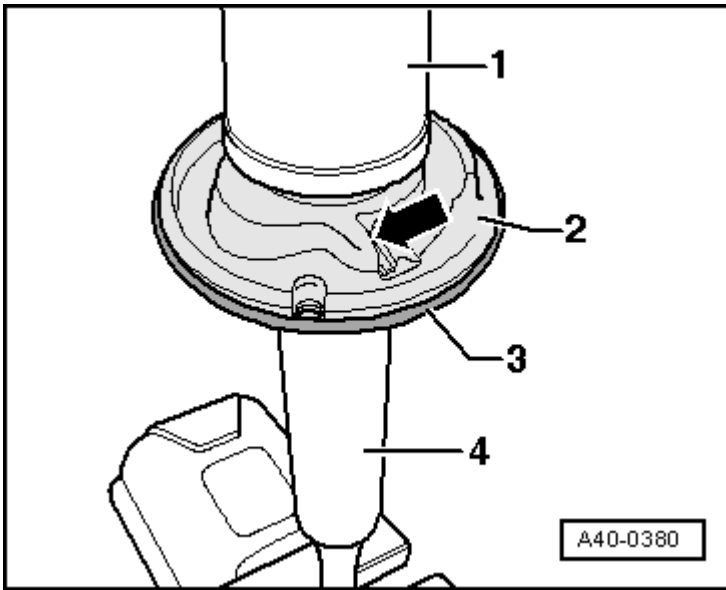

Fig. 122: Identifying Protective Cap, Bottom Spring Washer, And Spring Plate
- Replace, refer to **Fig. 122**